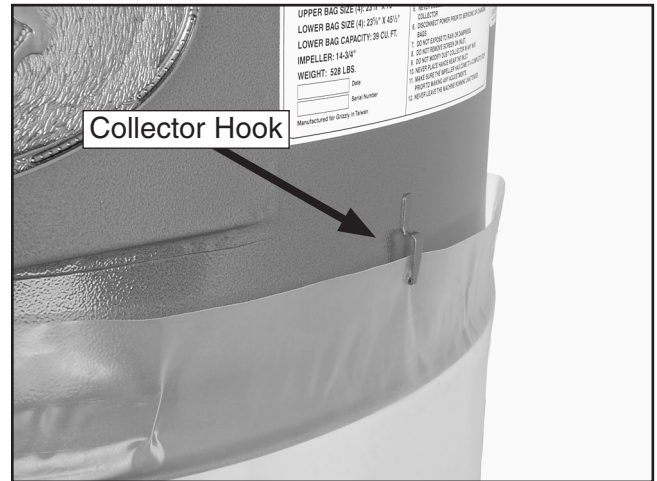

Figure 15. Bottom collection bag snagged on collector hooks.
28. Snag the bag on the hooks to hold the bag in place until the bag clamp can be secured (see **Figure 15**).